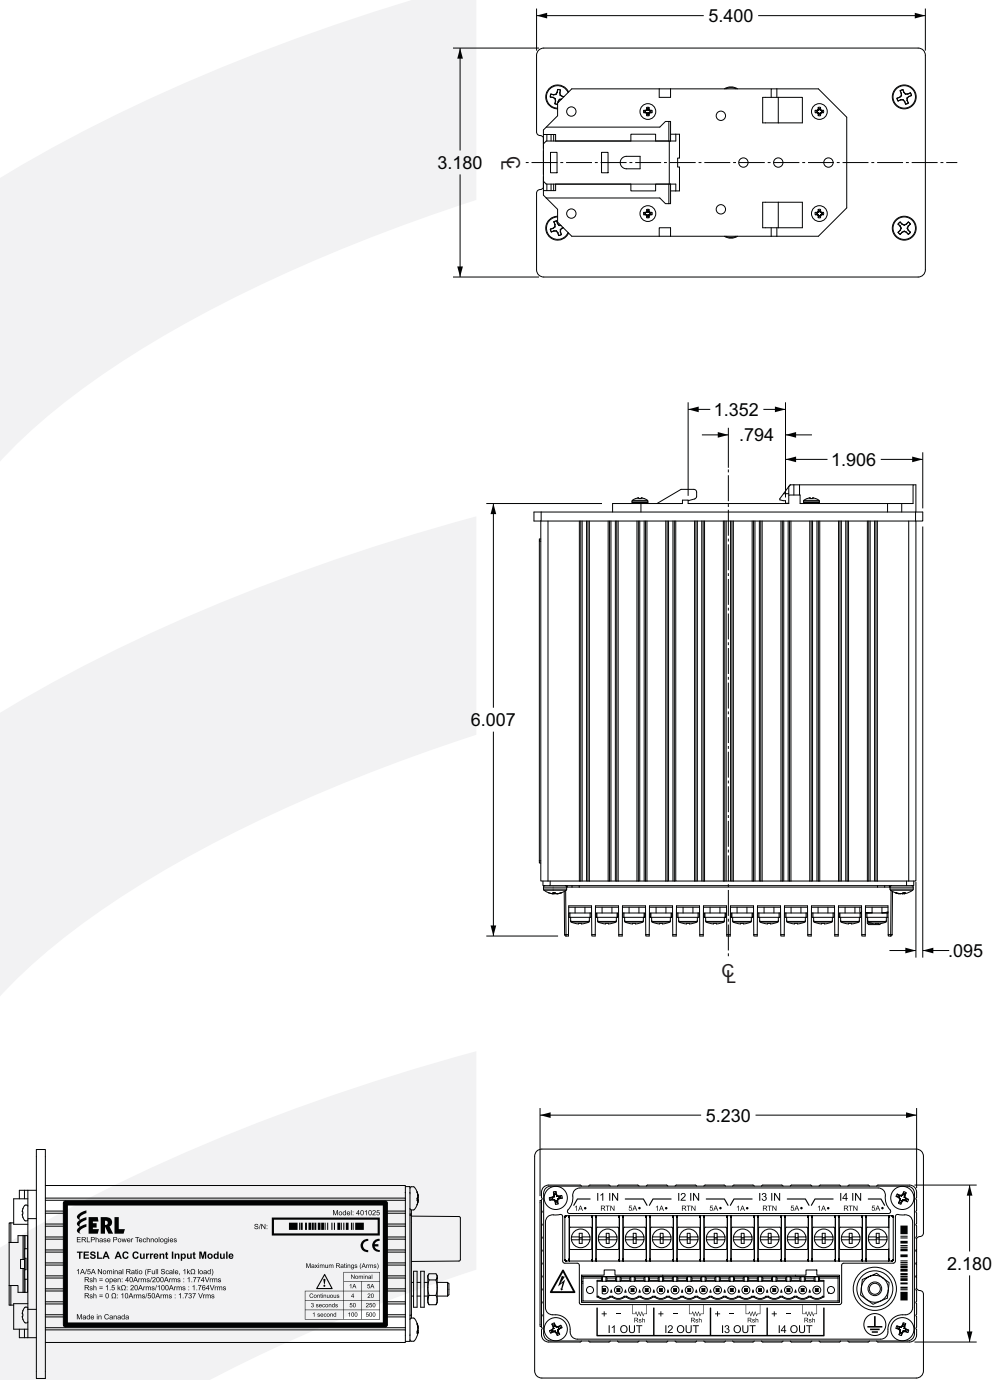

Figure F2: Part no 114153 4 Channel AC Current Input Module, 1A & 5A, DIN Mount
- Part No 114153 – DIN rail mount – Figure F2